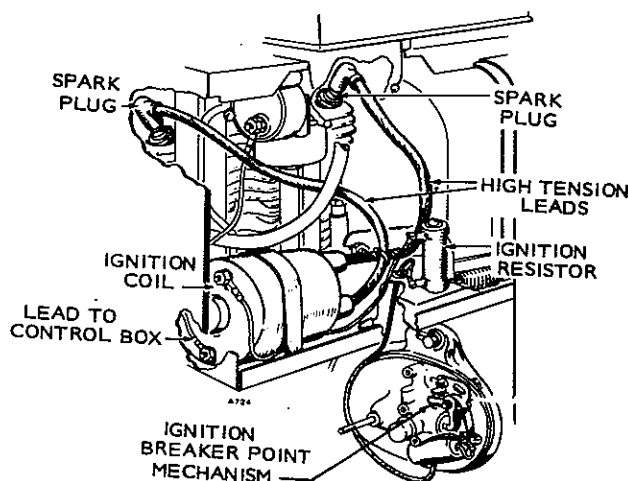
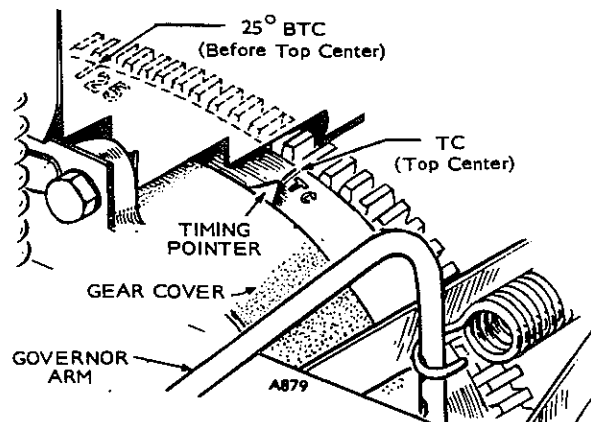

FIGURE 10-43. BATTERY IGNITION SYSTEM
FIGURE 10-44. JB-JC TIMING MARK
The JB engines (Figure 10-43) use a twin coil to fire both spark plugs simultaneously. One spark plug fires on the exhaust stroke while the other fires at the top of the compression stroke. A spark advance on the breaker point mechanism advances the spark from 5° ATC (after top center) at cranking speed, to 25° BTC (before top center) when running at rated speed, Figure 10-44.
2. Rotate flywheel clockwise until TC mark on flywheel approaches timing pointer, Figure 10-44. Then slowly rotate flywheel clockwise until light goes out, indicating that points have opened. This is the ignition point. If timing is correct, ignition occurs at 5° ATC.